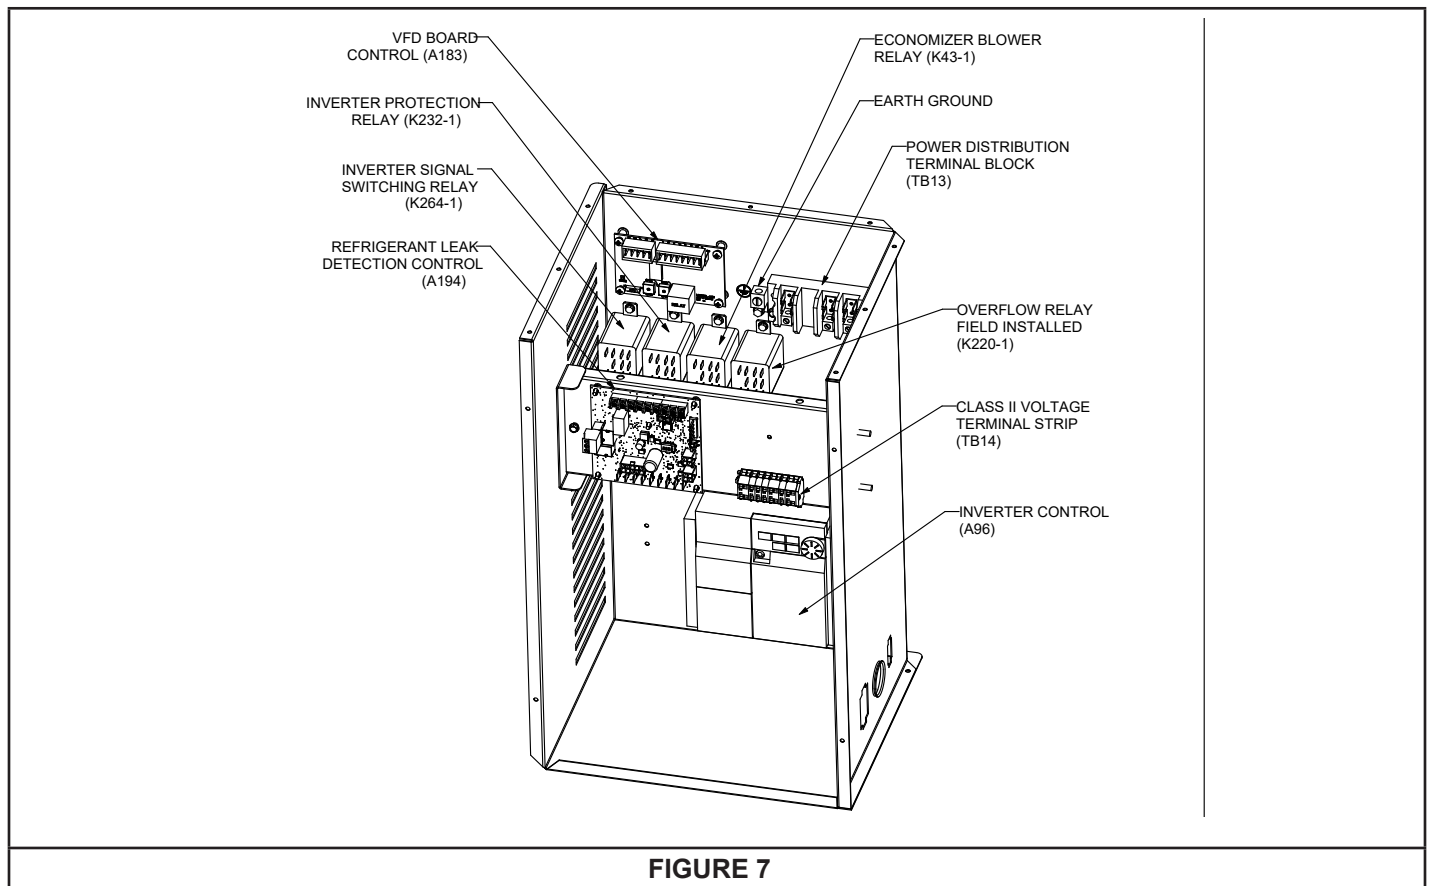

FIGURE 7
- 3 - Run the wires along VFD's right-hand side, next to back wall of control box, and secure in power distribution block lugs (TB13). Refer to figure 7 for control box component details.